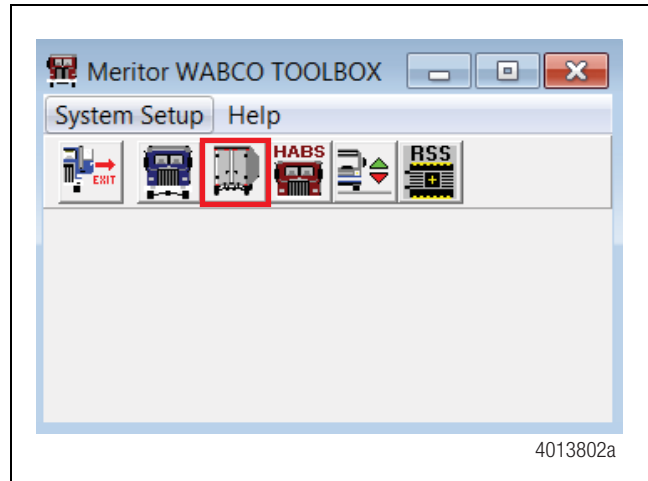

Figure 4
2. Click on the **Trailer ABS Diagnostics** icon to initiate the ABS portion of TOOLBOX™ Software. Figure 4.